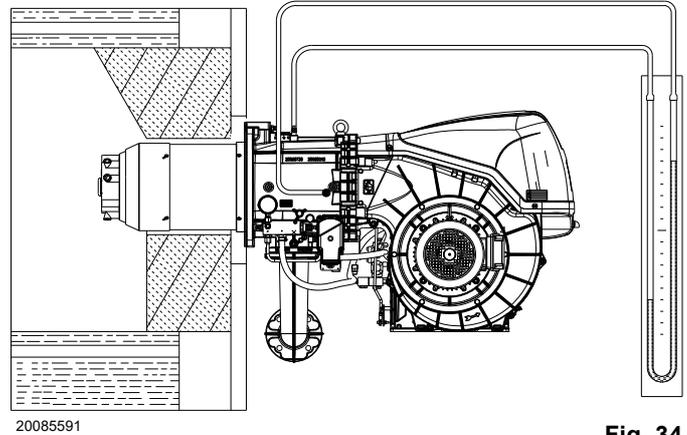

Fig. 34
- Fit a U-type pressure gauge or a differential pressure gauge (Fig. 34), with socket (+) on the gas pressure of the pipe coupling and (-) in the combustion chamber.
The arrival of gas at the pipe coupling is indicated by the U-type pressure gauge (Fig. 34).
A rough indication can be obtained from Tab. M on page 28, just read the gas pressure on the "U" pressure gauge (see Fig. 34 on page 34) and follow the indications.